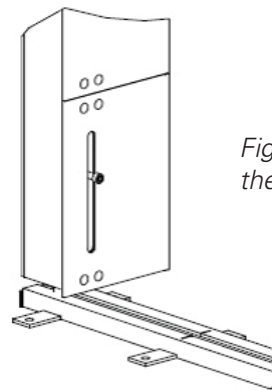

Figure 6: Cap screw on the Pocket retained post
3. Loosen cap screw on the back of pocket retained post. Lift the lock rod up and bring grille back into pocket. Slide the lock rod into the guide bracket, adjust the height so it catches the bracket and clears the floor then tighten the cap screw. Refer to Figure 6.